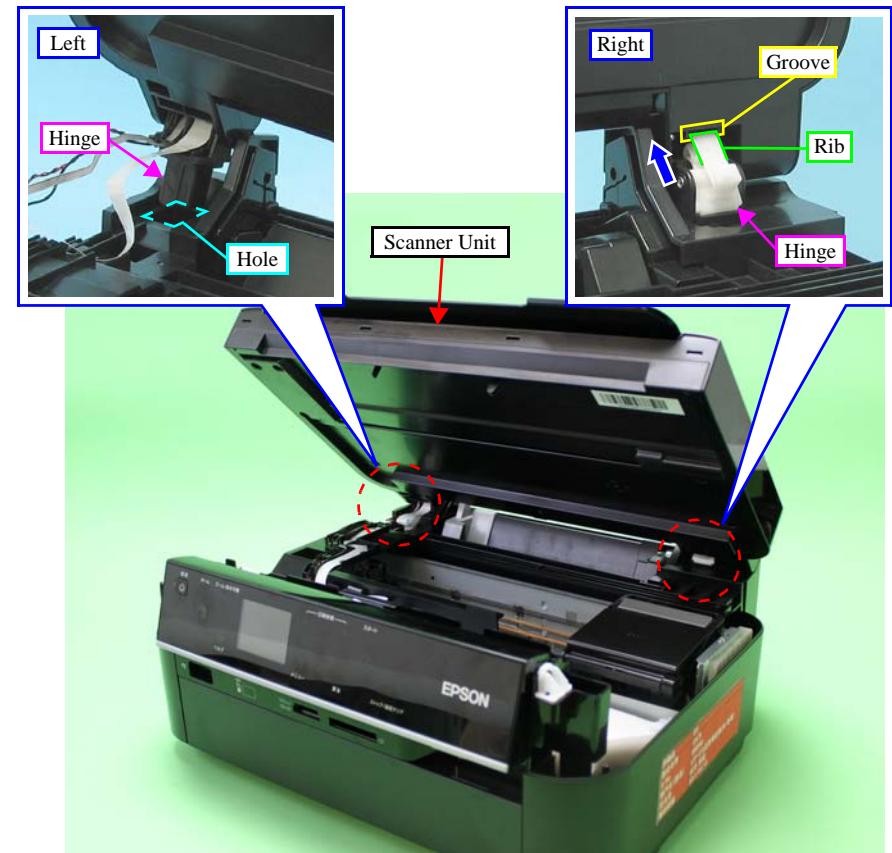

Figure 8-4. Removing the Scanner Unit (3)
7. While keeping the Scanner Unit open at 45 degrees, push it in the direction of the arrow as shown in Fig. 8-4 to remove the Scanner Unit from the right hinge.